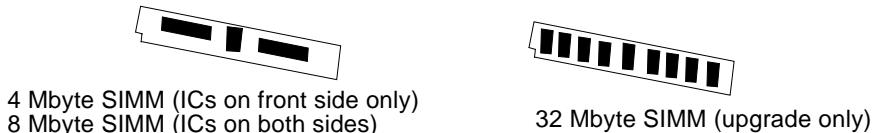

FIGURE 3-10 SIMMs
Remove the SIMMs from front to back. Press the small latch on each side of the SIMM that releases it from the slot (FIGURE 3-10).
a. Remove first two SIMMs from slot D and slot C (FIGURE 3-10) and set them aside.
The SIMM is keyed and will fit only one way (notch in lower left corner) (FIGURE 3-10).